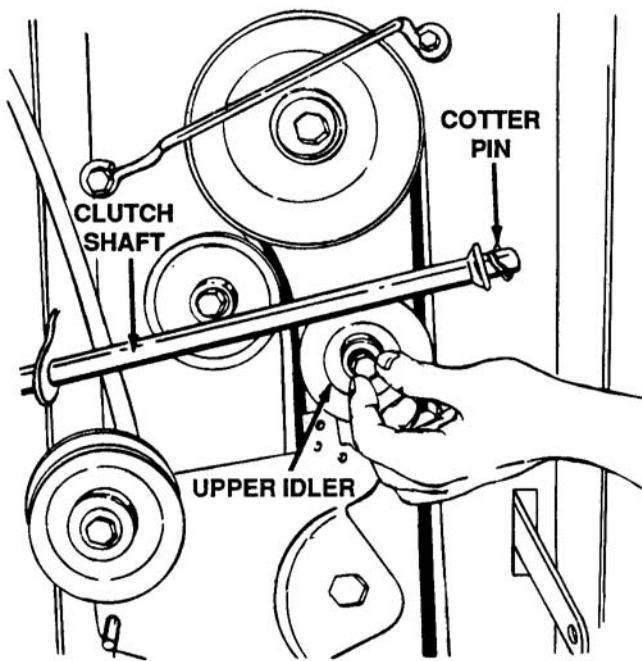

Figure 7-59. Removing Cotter Pin and Idler
8. Remove the cotter pin from the clutch shaft and pull it out of the bracket. See Figure 7-59.